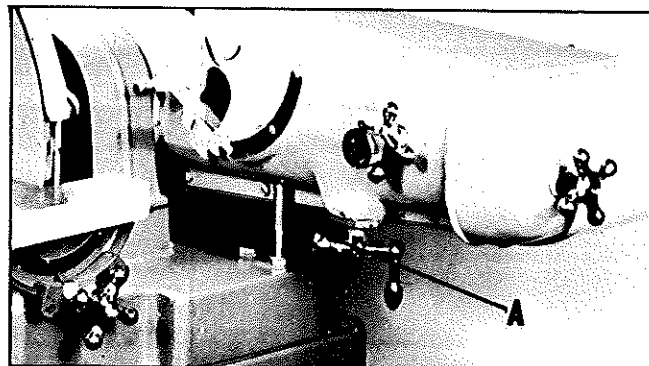

Fig. 18
2. When moving the sanding arm to the horizontal position, the arm will contact the stop (A) as shown in Fig. 18. IMPORTANT: BEFORE STARTING THE MACHINE AFTER REPOSITIONING THE SANDING ARM ALWAYS CHECK THE TRACKING OF THE BELT.